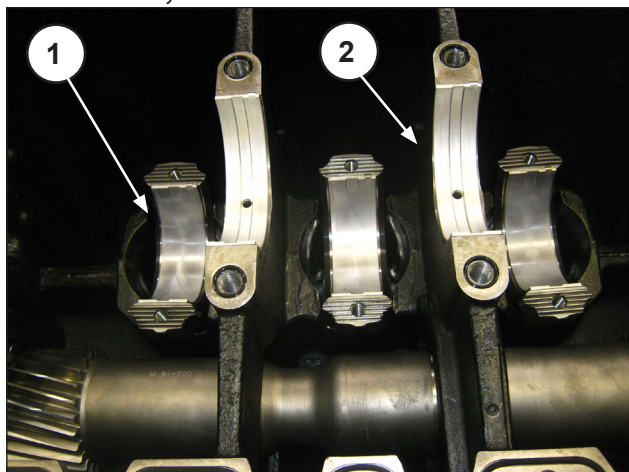

Fig. 95
Fit the bearing shells on the three conrod caps and on the main bearings of the front casing (Fig. 95 pos. ①, ②). Position the three assemblies with the big ends on the wall of the associated cylinders.
To avoid possible swapping of bearing shells adhere strictly to the above figure (Fig. 95); specifically, the conrod bearing shells have no notch (pos. ①) while the main bearing shells have a notch and an oilway (pos. ②). Before fitting the crankshaft recheck the correct positions of the bearing shells.